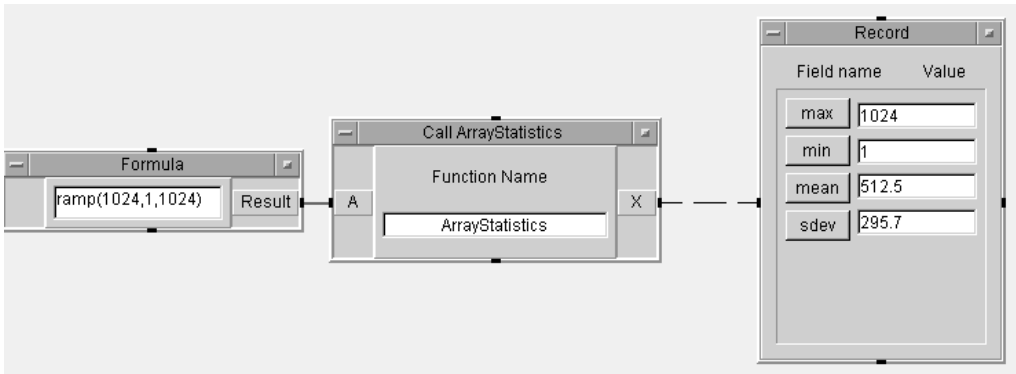

Figure 11.6. ArrayStatistics output edited to display a record
22. Run this program. It should look like Figure 11.6.